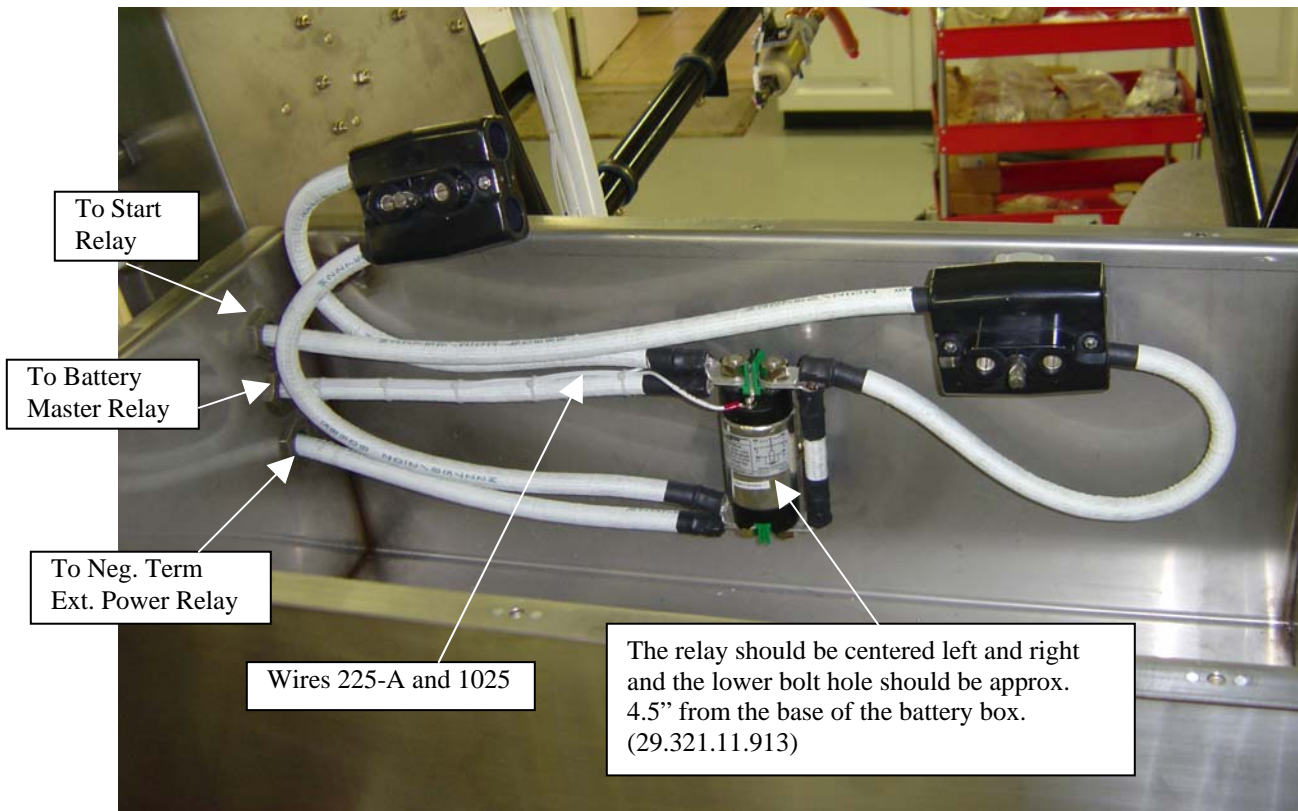

Figure 3
12. Install the parallel/series transfer relay (29.321.11.913) in the battery box as depicted in figure 3 using two (AN3-4A) bolts, two (AN960-10) washers, and two (AN363-1032) nuts in diagonally opposing holes.
14. Attach existing wire 225 and a new wire 225-A (MS22759/8-18-9) to the terminal A2 of the normally closed relay. Route wire 225-A from normally closed relay terminal A2 out the strain relief clamp for the battery relay in the j-box and go in the middle strain relief of the battery box to the A2 terminal on the parallel/series transfer relay using a #8 ring terminal (see figure 3).
15. Route the new ground wire 1025 (MS22759/8-18-9) from the common ground point in the j-box to the battery box following the same path as wire 225-A, except attach wire 1025 to the A1 terminal on the parallel/series transfer relay using a #8 ring terminal. Use tie wraps to secure wires 1025 and 225-A to the middle heavy gauge wire of the battery box (see figure 3).
21. Cut the heavy gauge wire coming thru the middle strain relief (from the battery master relay) of the battery box to the proper length to allow installation of the wire on the top (1 or 88) terminal of the parallel/series transfer relay (see figure 3). Crimp a 3/8” 70-10 ring terminal at the new cut length.
22. Loosen the bottom heavy gauge strain relief on the battery box for the negative cable and push the cable further into the box to attach to the bottom post (4 or 87a) of the parallel/series transfer relay as depicted in figure 3. The existing 3/8" 70-10 ring terminal might have to be cut off and a new one installed to allow for proper clocking of the ring terminal. If the cable is not long enough, a new cable must be fabricated from the external power plug to the parallel/series transfer relay using the cable and 3/8" 70-10 ring terminals supplied in the kit.
24. Fabricate the heavy gauge jumper wire from the top terminal (2 or 88a) of the parallel-series transfer relay to the bottom terminal (3 or 87) using the MS22759/2-02-9 wire and the 3/8" 70-10 ring terminals that were supplied with the kit. Again, pay careful attention to ring terminal clocking. (see figure 3)